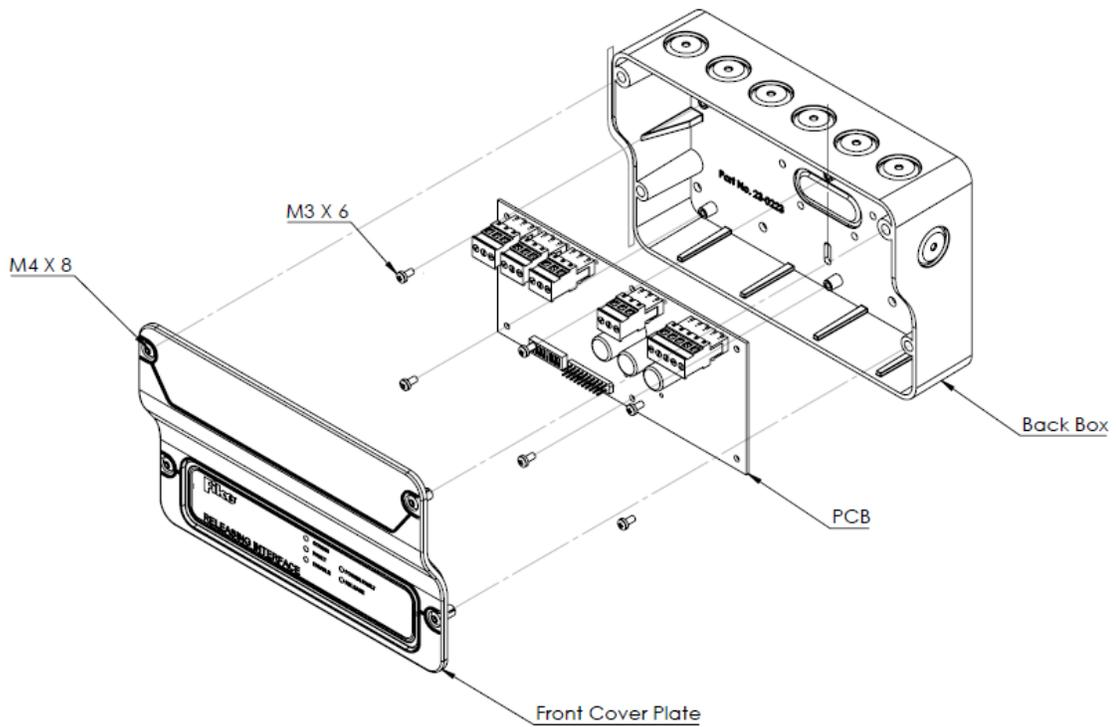

Figure 1 – IRM Layout
Site safety procedures should always be observed when using a knife to remove the cable entry points. If cable entry points are drilled out, the PCB should be removed from the enclosure before drilling (see Figure 1).
13. Secure the IRM front cover plate to the back box using the screws provided, as shown in Figure 1. Make sure wiring is not pinched or excessive strain is not placed on the IRM terminal block.